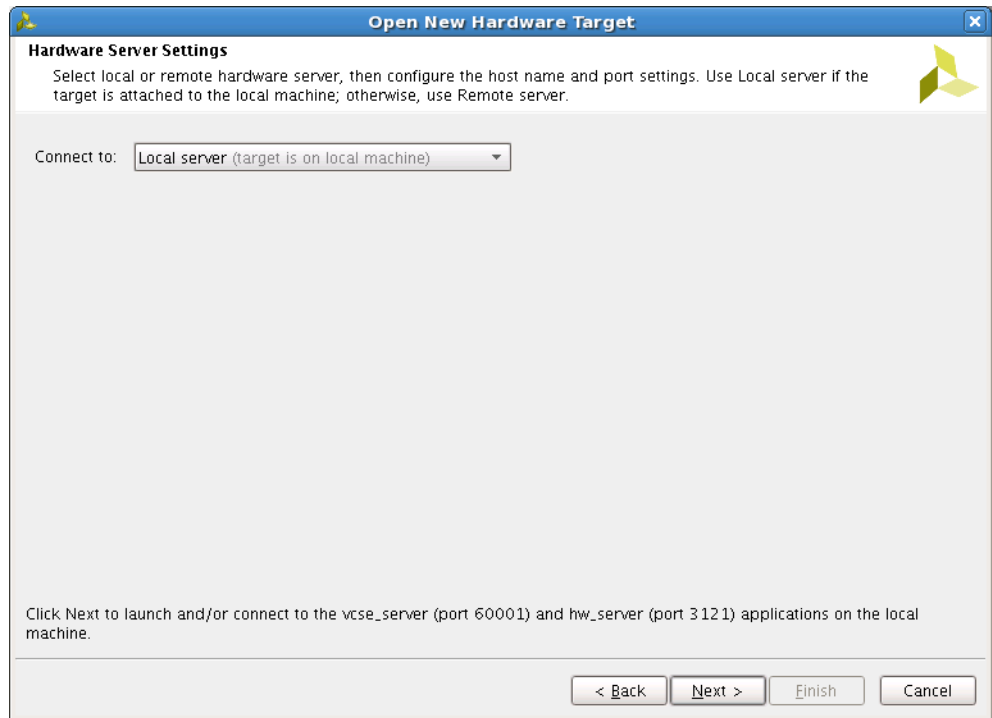

Figure 17: Hardware Server Settings
3. Select **Local server** and click **Next** (Figure 17).